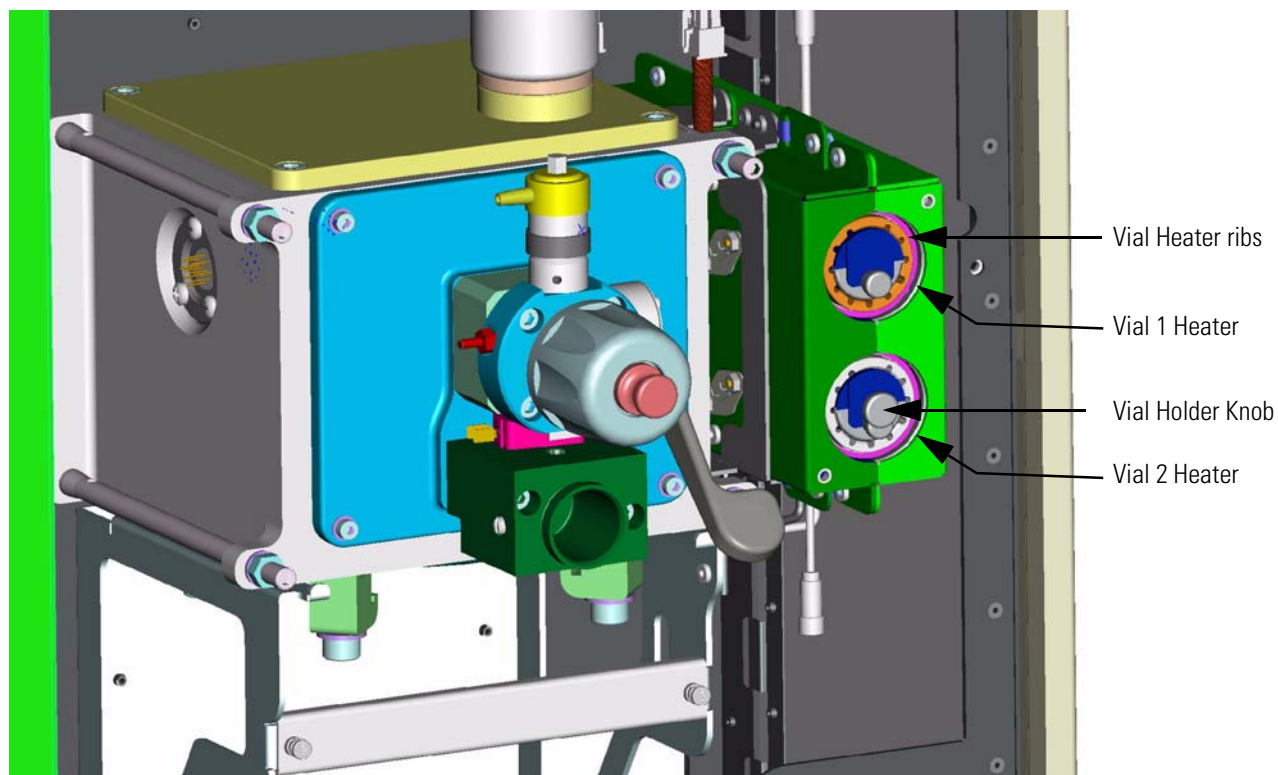

Figure 3-47. ETD Module with vial heater cover removed
6. Remove the empty vial if it is present. The vial holder is a cylindrical tube with a handling knob at one end and ribs along its length. See Figure 3-46. These ribs prevent the vial holder from rotating once it is placed into the vial heater. Figure 3-47 on page 3-52 shows the tab and ribs of a vial holder in the vial heater.